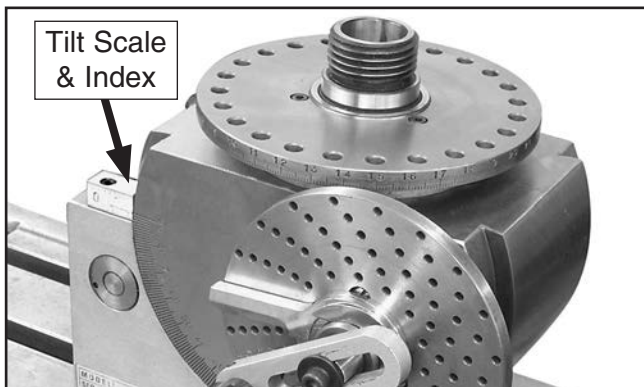

Figure 15. Spindle tilted vertical.
2. Tilt the spindle to the desired angle as displayed on the tilt scale, then re-tighten the hex nuts (see **Figure 15**).